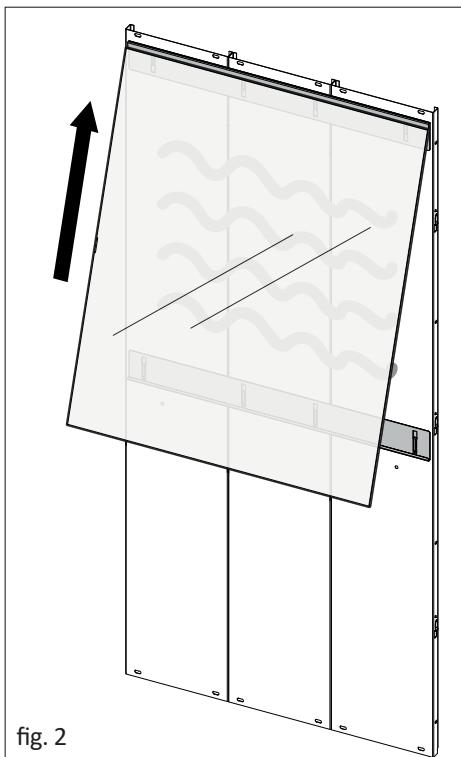

fig. 2
- Insert the mirror in the upper casing keeping it tilted (Fig. 2).